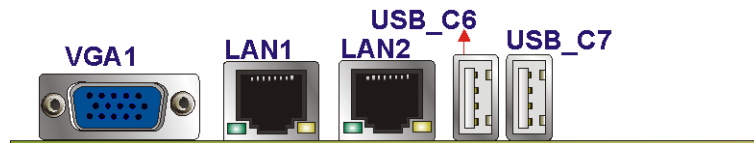

Figure 4-20: PCIE-9452 External Peripheral Interface Connector
Figure 4-20 shows the PCIE-9452 rear panel. The PCIE-9452 rear panel consists of two RJ-45 Ethernet connectors, a PS/2 keyboard connector a USB port and a VGA connector. These connectors are accessible when the PCIE-9452 is installed in a chassis.
CN Location: See Figure 4-20
- CN Location:** See Figure 4-20